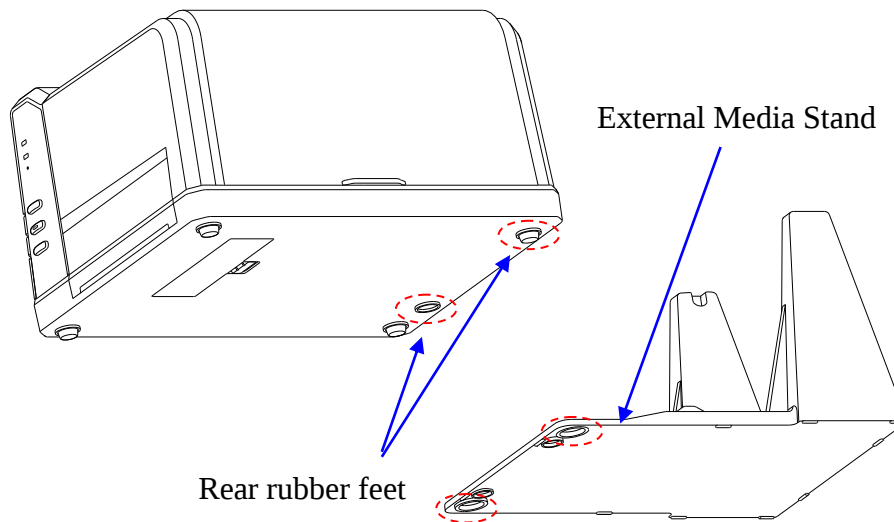

Figure 2-8 Place the External Media Stand
1. Place the front part of the External Media Stand under the printer, making sure the two rear rubber feet of the printer are fitted into the two holes on the media stand, see Figure 2-8.